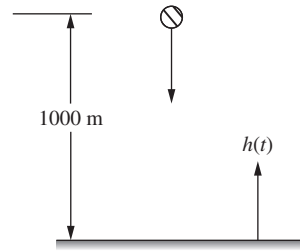

Figure P2.16 A ball dropped from a height of 1000 m.
- 2-16.** The ball shown in Fig. P2.16 is dropped from a height of 1000 m. The ball falls according to the quadratic equation $h(t) = 1000 - 4.905t^2$. Find the time t in seconds for the ball to reach a height $h(t)$ of